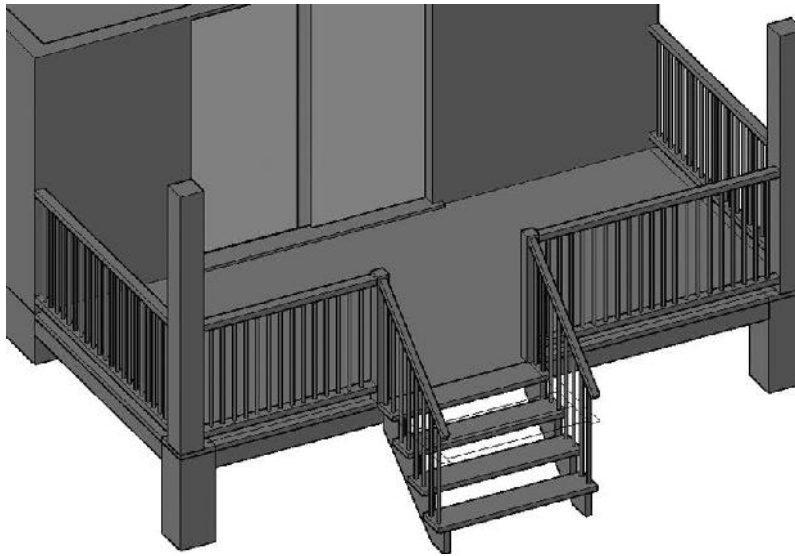

FIGURE 16.65: The completed front deck
Use your preferred visual style to draw the boxes. For clarity, Figure 16.65 uses the Conceptual visual style. The boxes should span the distance from the foundation to the support post and between the support posts, respectively.
6. Change the visual style back to Conceptual, and your completed deck should look like Figure 16.65.